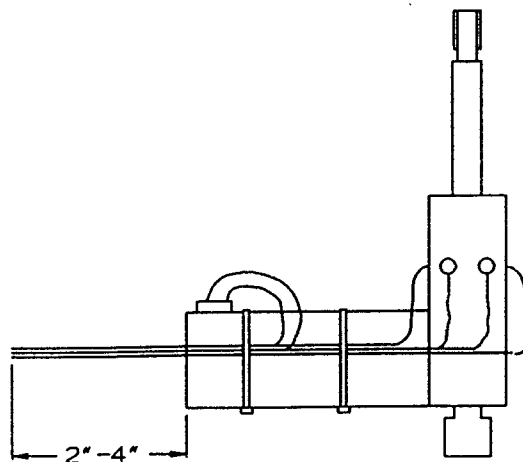

Figure 1
- 5.2.3) Remove both trim actuator assemblies (longitudinal located under the co-pilot's seat and lateral located under the pilot's seat) and rewire per schematic 28-19050, Revision B. NOTE: Use pin housing, P/N 1-480426-0, and pins, P/N 60618-1 and 60620-1, for P17 and P18. The pigtails should be at least two to four inches past the back of the trim motors (See Figure 1). Use pin, P/N 60618-1, in positions 1 & 4 and pin, P/N 60620-1, in positions 2 & 3 of both pin housings. Change the wire markers as follows: 40-14A to 37-35B, 40-14B to 37-34B, 40-13A to 37-32B, 40-13B to 37-33B, 40-15A to 37-36B, 40-15B to 37-37B, 40-16A to 37-39B, 40-16B to 37-38B, and remove the wire markers from the red and black wires for the trim motors.